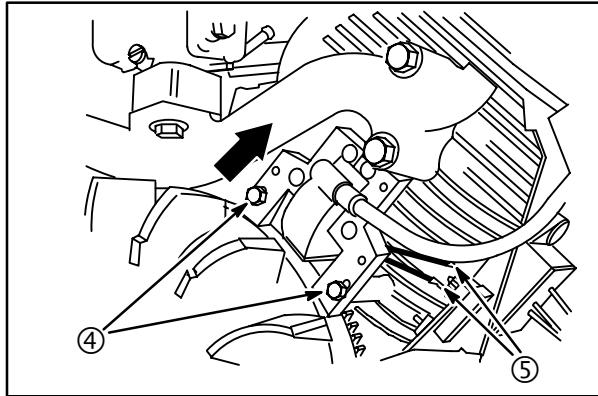

Fig. 20
1. Assemble armature to engine, **Fig. 20**.
**NOTE:** Mounting holes in armature are slotted. Push armature away from flywheel (arrow) as far as possible. Tighten either screw (4) to hold armature in place.